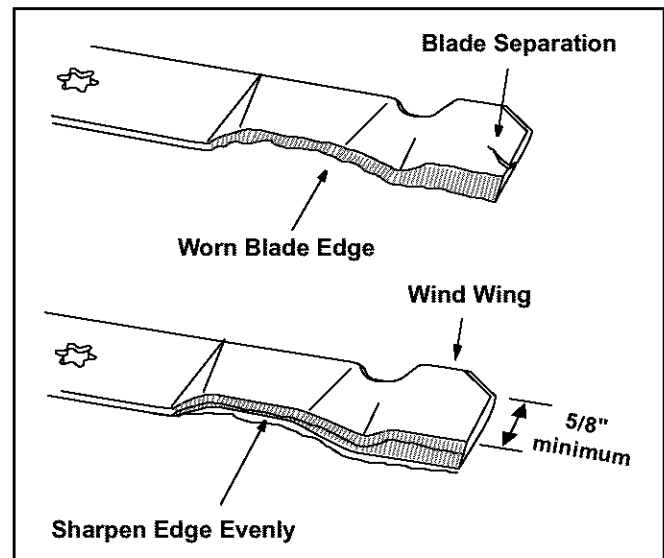

Figure 16
To properly sharpen the cutting blades, remove equal amounts of metal from both ends of the blades along the cutting edges, parallel to the trailing edge, at a 25° to 30° angle. See Figure 16.
**IMPORTANT:** If the cutting edge of the blade has already been sharpened to within 5/8" of the wind wing radius, or if any metal separation is present, replace the blades with new ones. See Figure 16.